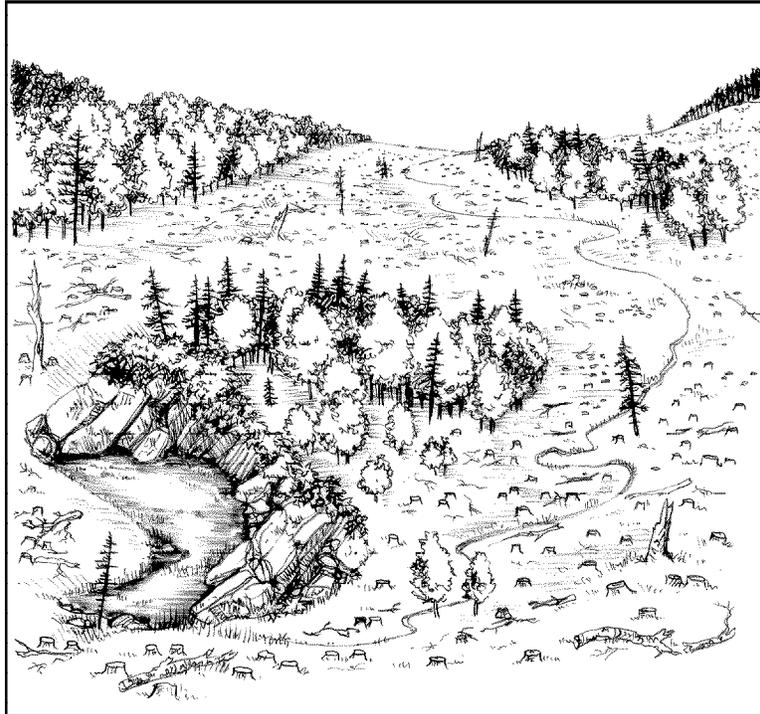

Figure TH-3
**U** Mimic natural disturbance by leaving some live trees, snags and reserve patches in clearcut harvest areas. Consider leaving fingers and fire shadow areas next to wetlands in fire-dependent forest types. See Figure TH-3, and see *General Guidelines: Retaining Live Trees*.